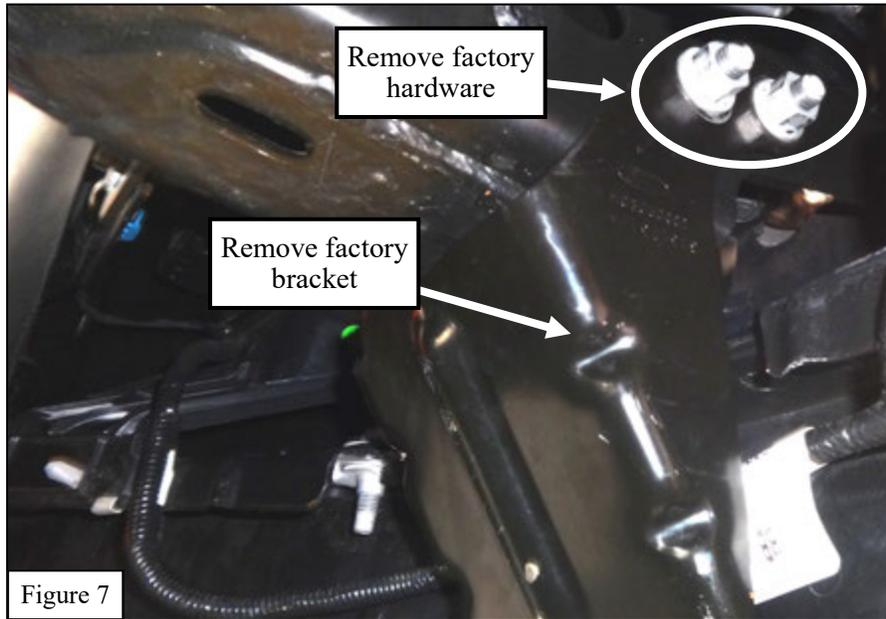

Figure 7
12. On each side of the truck, remove the factory bracket and hardware shown in **Figure 7**. The factory brackets will not be re-used.